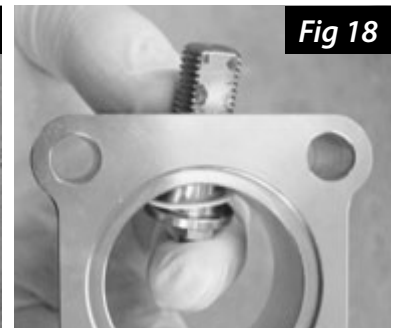

Fig 18
2. Insert the valve stem through the inside of the valve body (Fig 18).